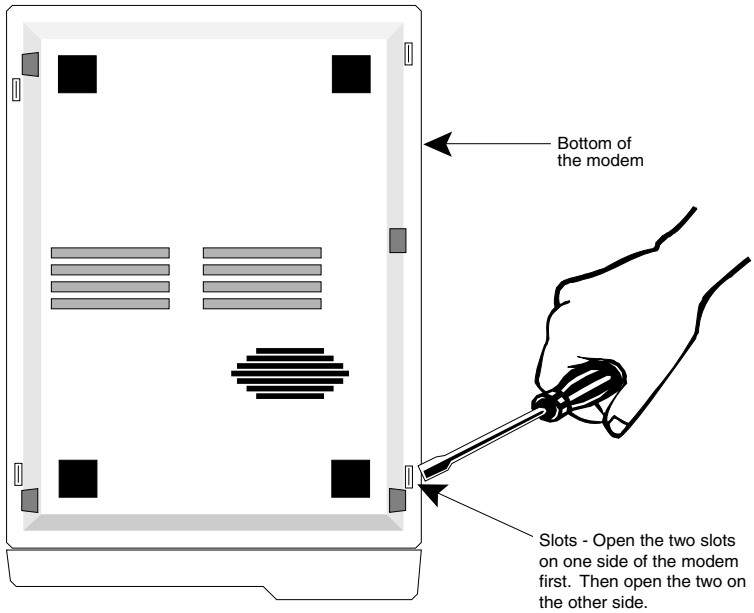

Figure C-1. Cover Removal
- 2) To disengage the cover's locks from the the base of the modem, insert a medium size flat screwdriver blade in one of the slots as illustrated in Figure C-1. **DO NOT PUSH** the screwdriver, but pry the lock open by applying pressure toward the unit.